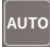

Fig. 19
2. After sitting on the seat, turn the adjustment knob clockwise or counterclockwise to adjust the angle of the seat back (Fig. 19).